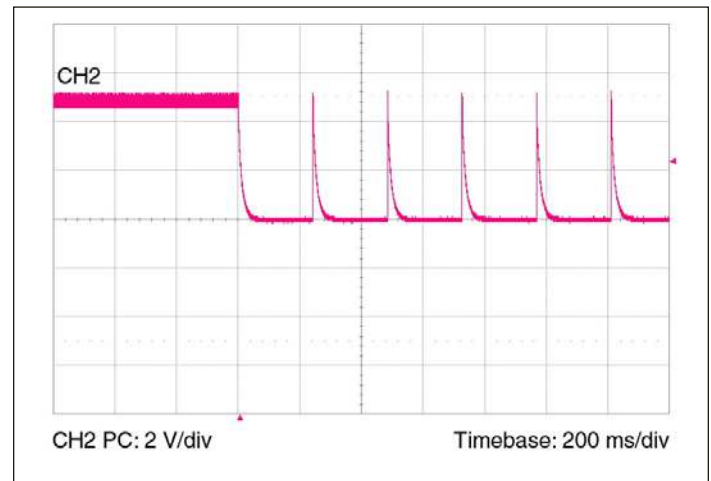

Figure 13 — PC signal during fault
**Alarm** – The BCM contains circuitry that monitors output overload, input over voltage or under voltage, and internal junction temperatures. In response to an abnormal condition in any of the monitored parameters, the PC port will toggle. Refer to Figure 13 for PC alarm characteristics.